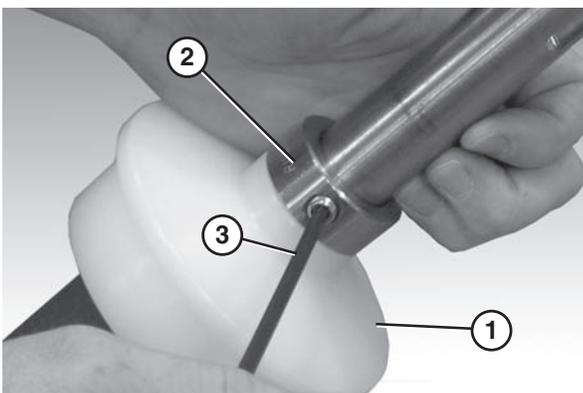

Figure 81
5. Slide the second flanged puck (**Figure 81, item 1**) and the retaining ring (**Figure 81, item 2**) onto the drive spindle.
6. Tighten the retainer ring fastener using a hex wrench (**Figure 81, item 3**).